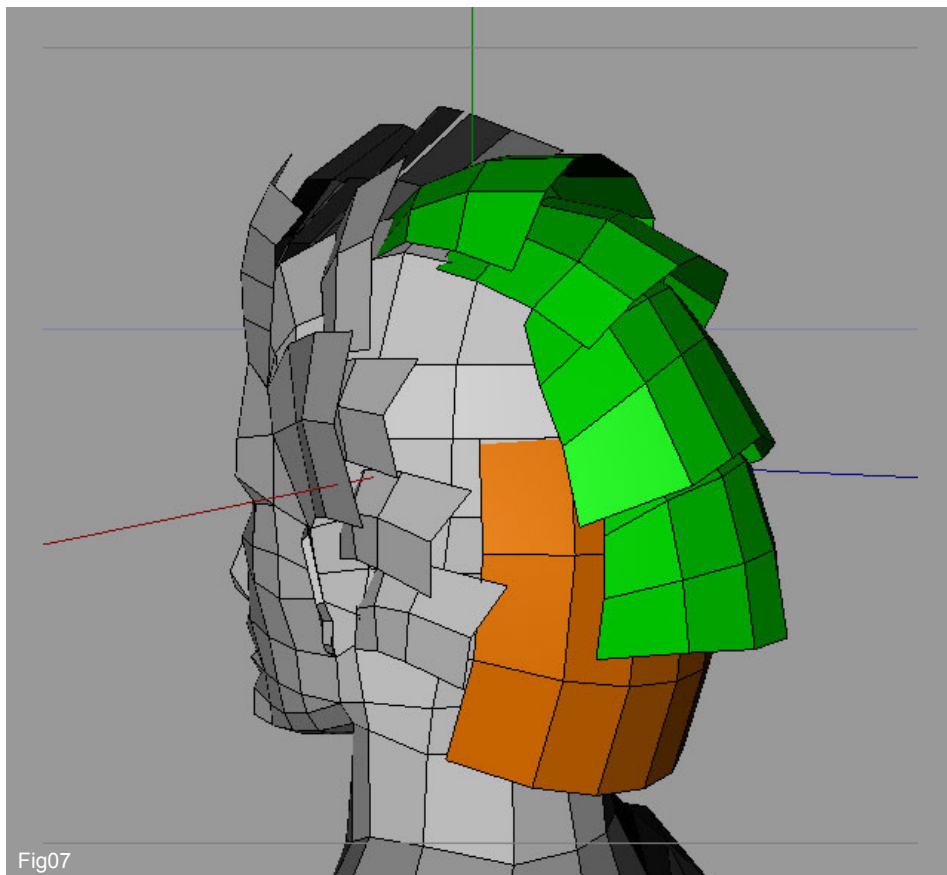

Fig07
7. To finish this section add one more row as shown in Fig07.